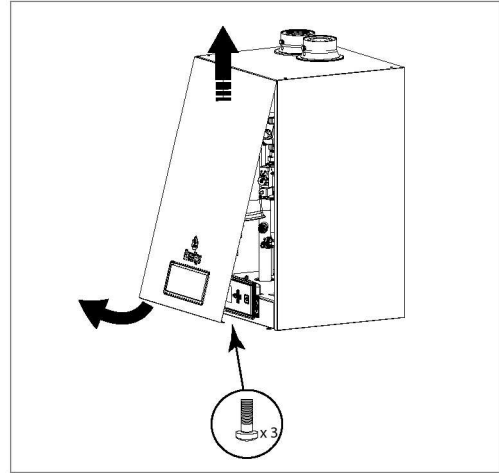

Fig. 2 - Prestige Solo & Excellence - Front Panel Removal
7. Remove boiler front panel to access the electronic board and the burner (See Fig. 2).